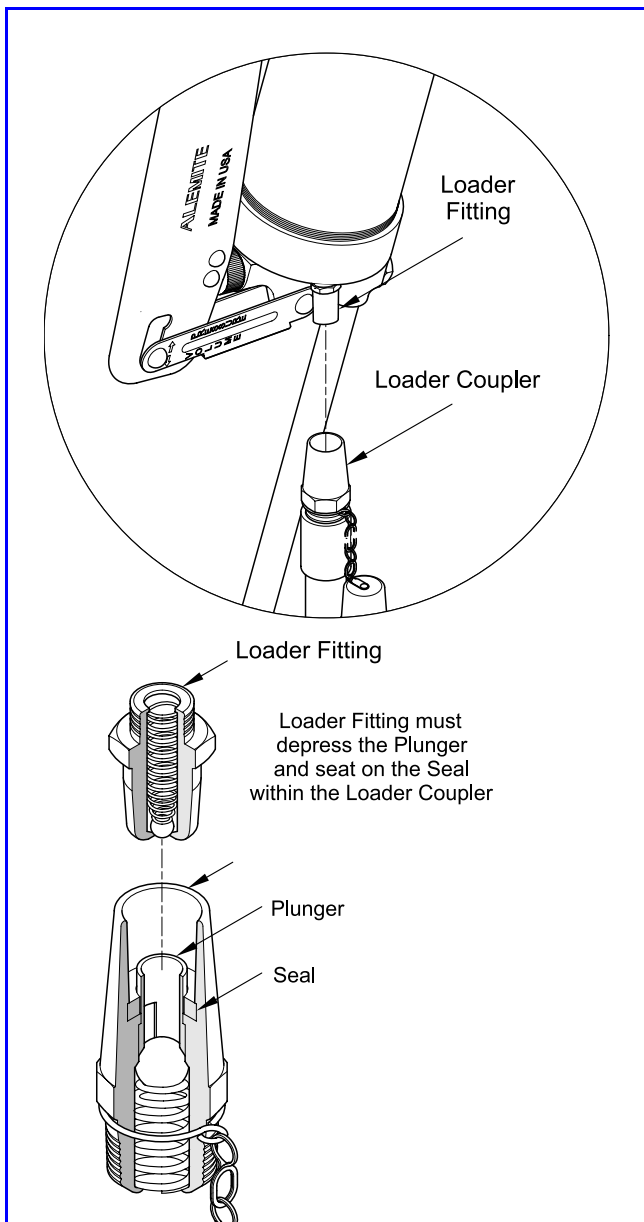

Figure 4 *Loader Fitting and Loader Coupler Section View*
3. Seat the Loader Fitting into the loader coupler. See **Figure 4**.